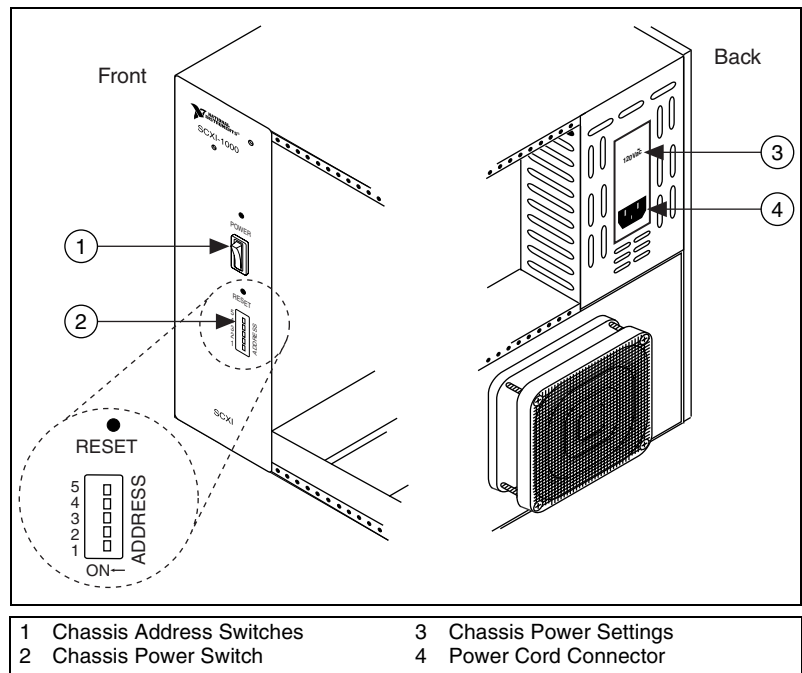

Figure 5. Chassis Preparation
2. Set the chassis address switches to OFF. In Figure 5, all switches are shown in the OFF position.
3. Confirm the correct power settings of the chassis (100, 120, 220, or 240 VAC) shown in Figure 5.
2. (PXI-1010 only) Set the chassis address switches to OFF. All address switches shown in Figure 5 are in the OFF position.
2. Confirm the correct power settings of the chassis (100, 120, 220, or 240 VAC) shown in Figure 5.